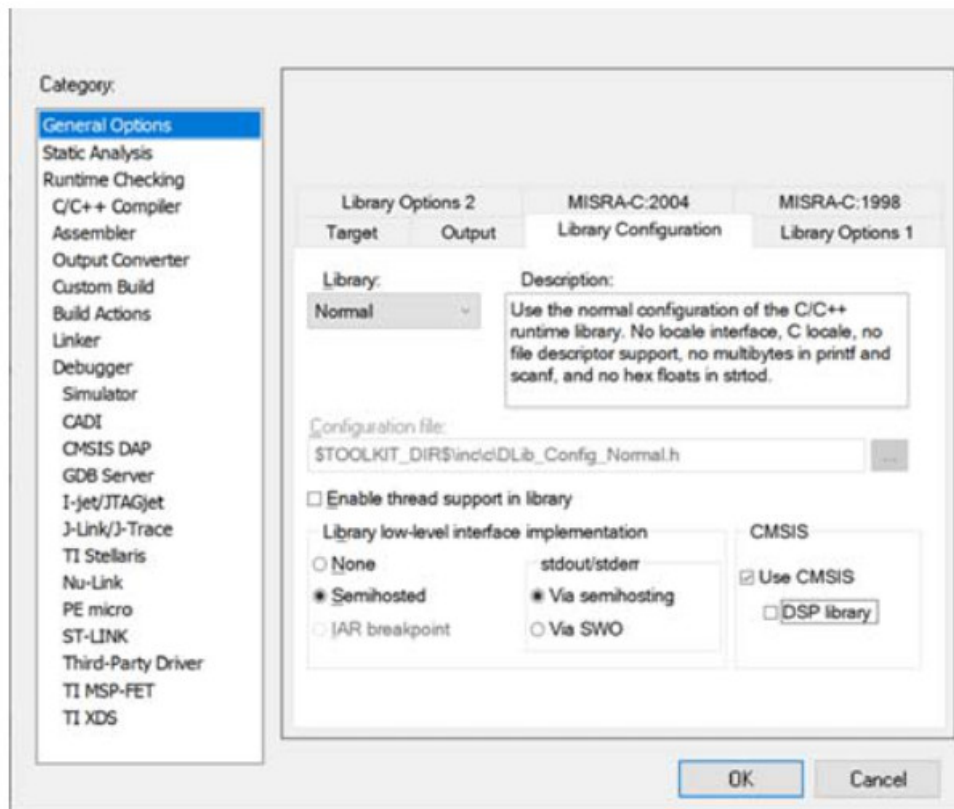

Figure 12. IAR Library Configuration
- After the ADuCM420 device is selected, click the Library Configuration tab. Ensure that all settings match those shown in Figure 12.